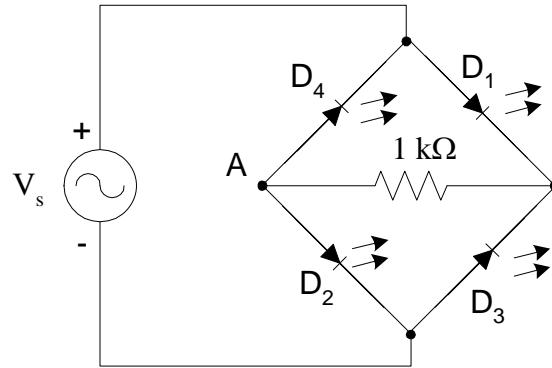

Figure 2 Full-cycle bridge rectification circuit using four LEDs.
3. What would happen to the output voltage of the bridge rectifier in Fig. 2 if one diode burned out (becomes an open circuit)? Sketch the input and output voltages together on the same graph if D_3 was burned out. Repeat if D_1 burned out.
4. Notice in the circuit of Fig. 2 that we have connected the load resistance in a “balanced” manner. Do you expect that the circuit would or would no longer behave as a bridge rectifier if node A were grounded? Explain.
2. The bridge rectifier you will be building in this part is shown in Fig. 2. Note that the diodes in this circuit are light emitting diodes (LEDs). Do not construct the circuit yet.
- (b) Construct the bridge rectifier shown in Fig. 2. The function generator should be set to a square wave voltage with zero average value at a frequency near 1 Hz or less. Increase the amplitude of the square wave until the LEDs fully illuminate. Since the frequency is so low, you need to adjust the time scale to large values (perhaps 20 ms/div or so).